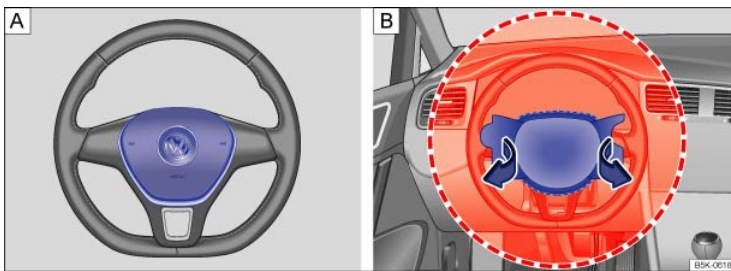
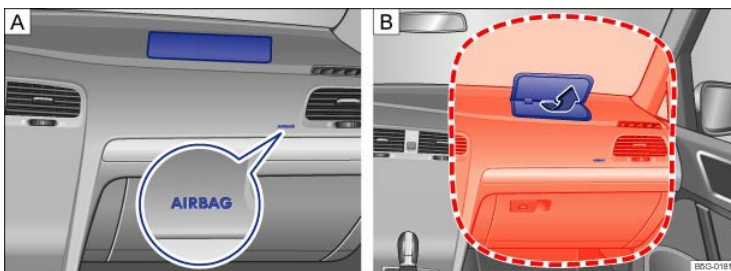

Fig. 40 Location and deployment zone of the driver front airbag.
Fig. 41 Location and deployment zone of the front passenger front airbag.
The vehicle is equipped with an Advanced Airbag System in compliance with the United States Federal Motor Vehicle Safety Standard (FMVSS) 208 or the Canada Motor Vehicle Safety Standard (CMVSS) 208 applicable at the time your vehicle was manufactured. The airbag for the driver is in the steering wheel hub ⇒ *Fig. 40* **A** and the airbag for the front passenger is in the instrument panel ⇒ *Fig. 41* **A**. The general location of the airbags is marked AIRBAG.
The areas marked in red (dotted lines) ⇒ *Fig. 40* **B** and ⇒ *Fig. 41* **B** indicate the airbag deployment zone. Never place or attach accessories or other objects (such as cup holders, telephone brackets, note pads, navigation systems, large, heavy or bulky objects) on the doors, on the windshield, over or near the area marked in red (dotted lines).
- Never place accessories or other objects (such as cup holders, telephone brackets, notepads, navigation systems, or things that are large, heavy, or bulky) on the doors or attach them to the doors; never place them over or near the area marked AIRBAG on the steering wheel, instrument panel, or seat backrests, or between those areas and someone in the vehicle → *Fig. 40* and → *Fig. 41*. Such objects could cause serious injury in a collision, especially if an airbag inflates.